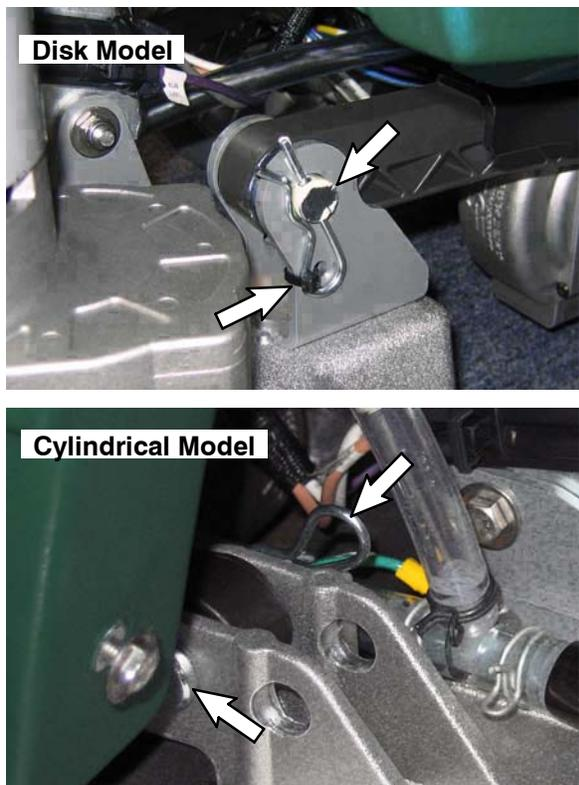

Fig. 10
10. Connect the two lift arms to the scrub head using the clevis and cotter pins supplied with kit. Secure cotter pin with wire-tie as shown (Figure 10).